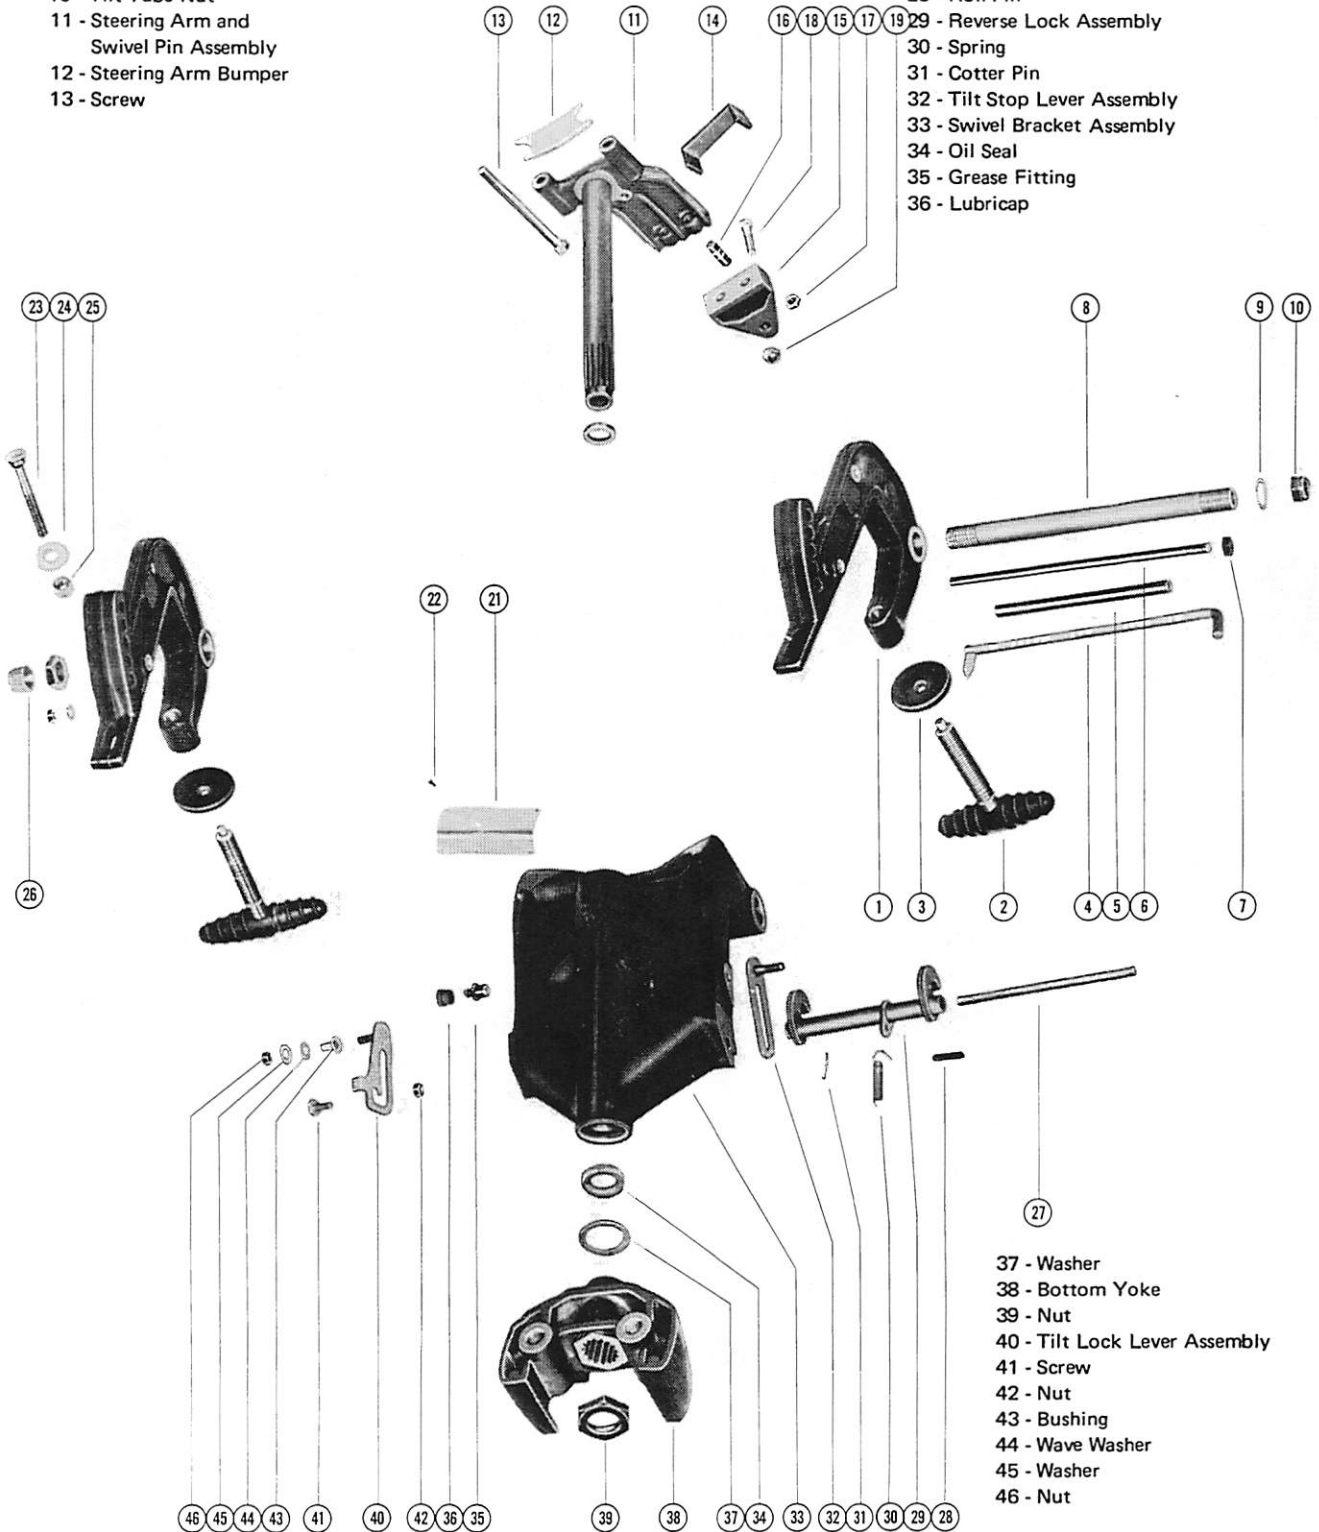

Figure 1. Clamp and Swivel Bracket Assembly
1. Remove cross pin which holds reverse lock lever in drive shaft housing. (Figure 1)